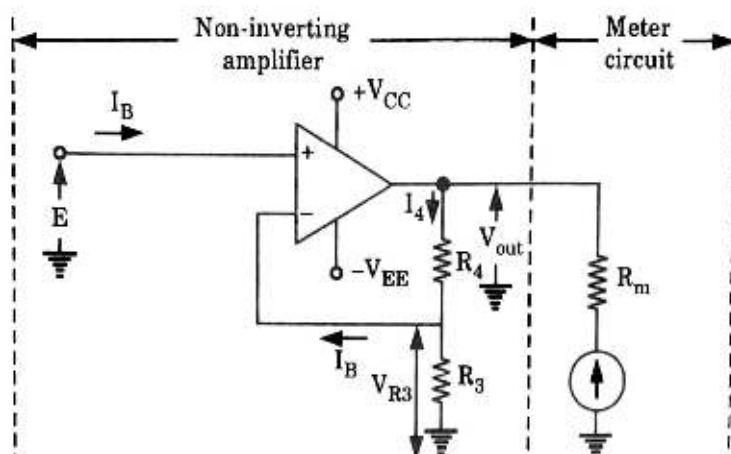

Fig. 2.5.2. An operational amplifier non-inverting amplifier voltmeter.
1. An IC Op-Amp can also be used to amplify low voltages to levels, measurable by a deflection meter. Op-Amp amplifier voltmeter circuit is used for this purpose as shown in Fig. 2.5.2.
2. The input voltage (E) is applied to the non-inverting terminal and voltage V_{R3} is feedback to the inverting terminal of the Op-Amp. The internal voltage gain of Op-Amp causes V_{R3} to be always equal to E . The output voltage is